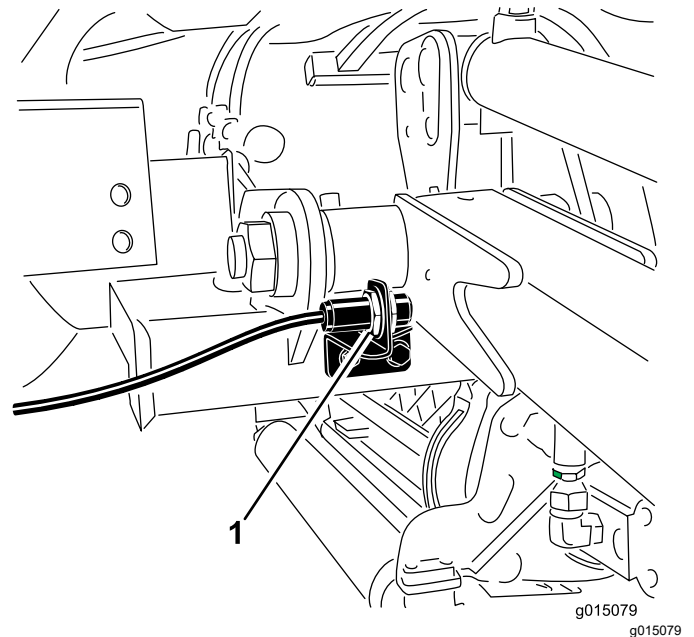

Figure 41
2. The lift-arm switch is located behind the front right lift arm (Figure 41).
3. Loosen the switch mounting screws (Figure 41) and move the switch up to increase the lift-arm turnaround height or move the switch down to decrease the lift-arm turnaround height.